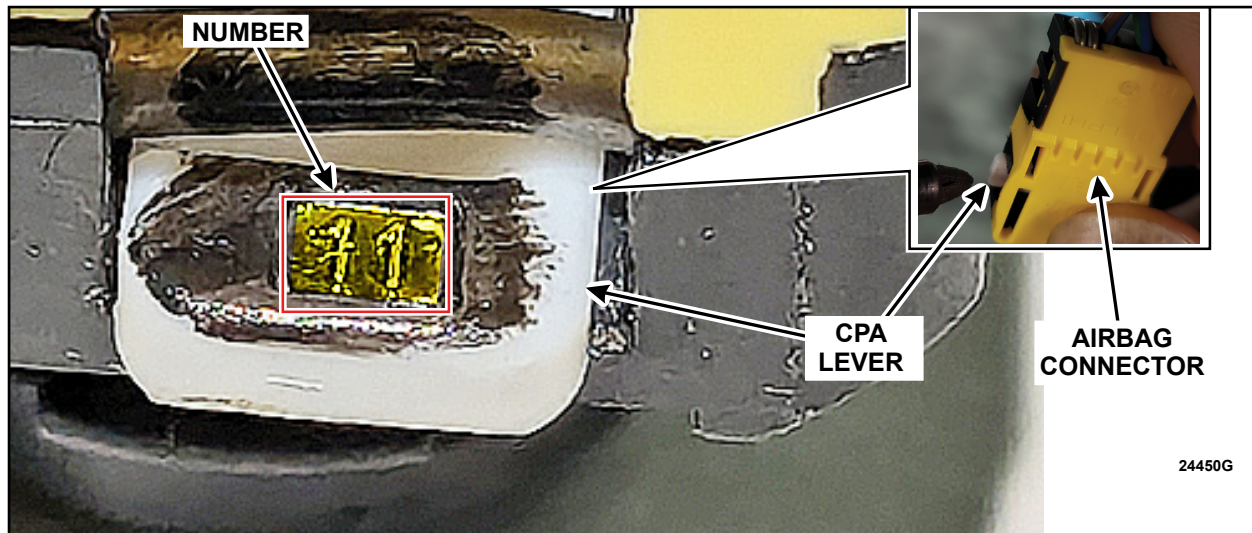

FIGURE 3
6. Using a magnifying glass or quality camera with a zoom feature, inspect the previously marked airbag electrical connector CPA levers in the area shown in Figure 3 for the following numbers:
NOTE: The number 11 is shown on the CPA lever in Figure 3. All others similar.